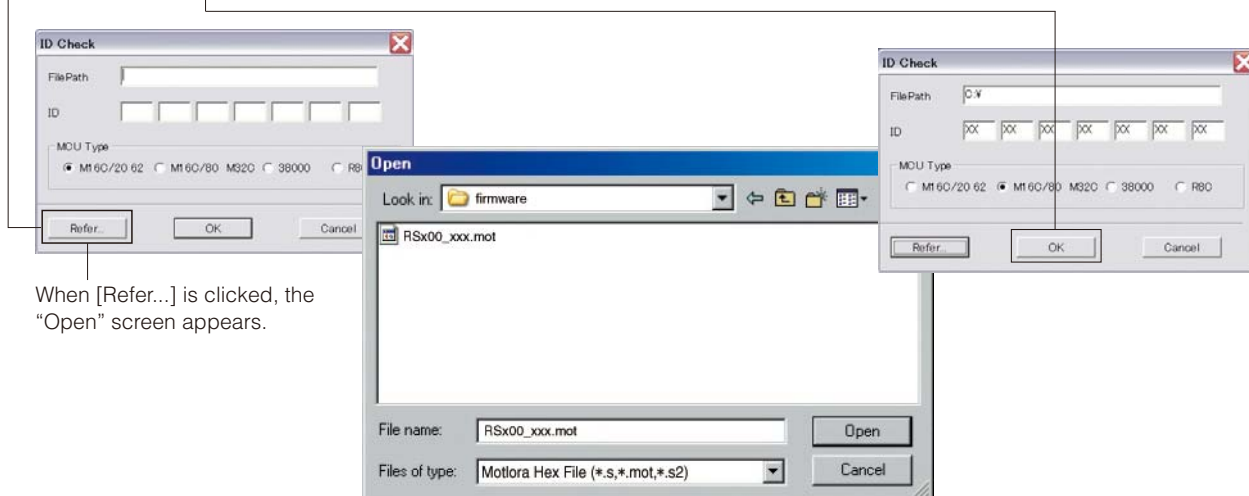

Fig. 3
4. Click [Refer...] and select the firmware name. (Fig. 3)
* The ID and MCU Type are loaded automatically when the file is selected. (Fig. 3)
Click [OK]. (Fig. 3)